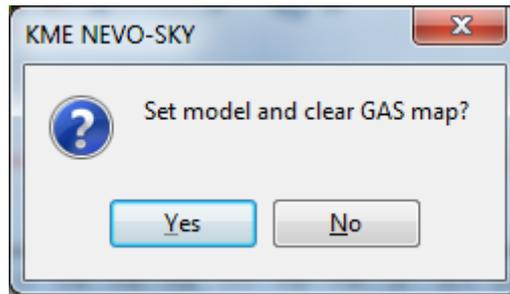

Fig. 2.98 Window confirming the model setting and deleting the gas map
- After collecting the maps (on gasoline and gas), press the "Set model" button. The program will ask whether to set the model and remove the gas map (Fig. 2.98).